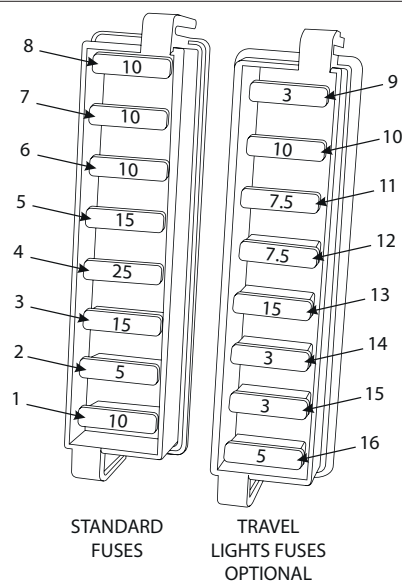

FIG. 50
- 1) Remove the cover located on the right side of the machine (see FIG. 50).